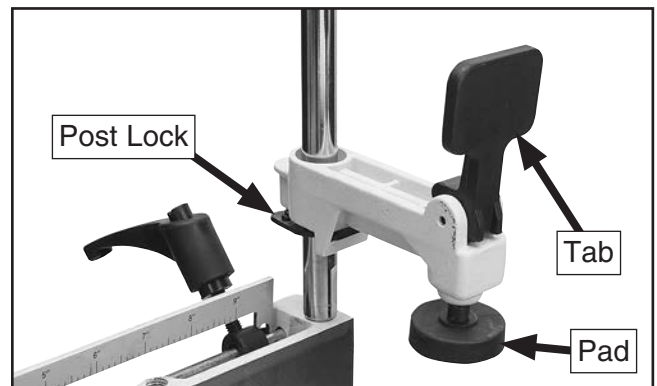

Figure 24. Setting hold-down height.
2. Squeeze post lock to raise/lower hold-downs until pad rests on workpiece (see **Figure 24**). Post lock will automatically lock when released.